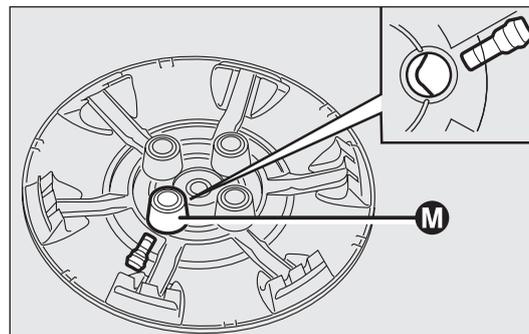

fig. 129
- fit the wheel cup making the symbol  coincide with the inflation valve and the bolt previously fastened to the hole M - fig. 129 (for Multijet engine versions) or fasten the wheel cup pressing till it fixes on the rim;